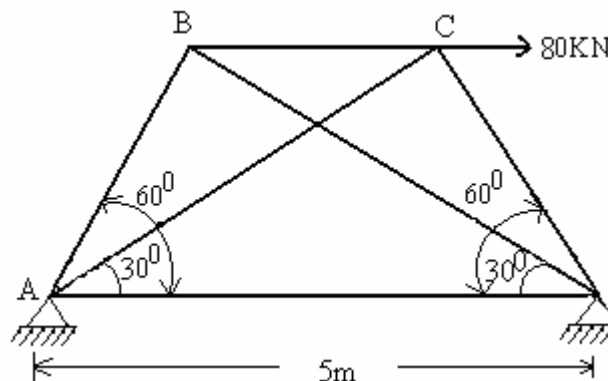

Fig.6
8. A pin-jointed truss shown in Fig.6 is hinged at supports A and D and is subjected to a horizontal force of 80 kN at C. Determine the forces developed in all the members of the truss. Assume cross-sectional area of all members as 5600 mm^2 and modulus of elasticity as 210 GPa. [16]